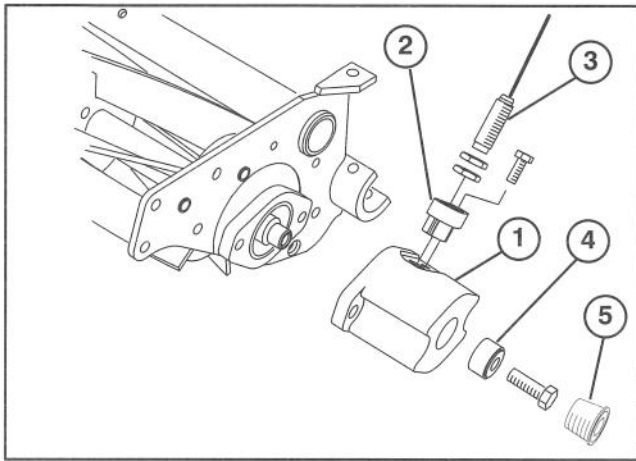

Figure 17
- Install a counterweight to the left front and left rear cutting units, with nuts previously removed (Fig. 17). Mount counterweight with reel speed sensor up.
- Through hole in end of counterweight, carefully position and mount a magnet (supplied in traction unit loose parts) to the end of the reel shaft with a 3/8 – 16 x 1" lg. capscrew (supplied in traction unit loose parts). Magnet to be installed with counterbore side toward the end of reel shaft and the smooth side outward (Fig. 17). Torque capscrew to a maximum of 5 ft–lb.